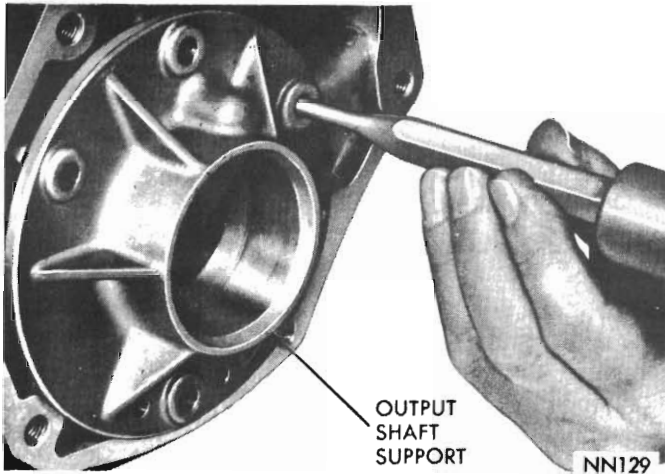

Fig. 91 - Removing overrunning clutch cam (A-727)
(1) Remove set screw from the case below clutch cam.
(2) Remove four bolts securing output shaft support to rear of transmission case. Insert a punch through bolt holes and drive cam from the case (Fig. 91). Alternate punch from one bolt hole to another so cam will be driven evenly from the case.
(3) Clean all burrs and chips from cam area in the case.
(4) Place spring retainer on the cam, making sure retainer lugs snap firmly into notches on the cam.